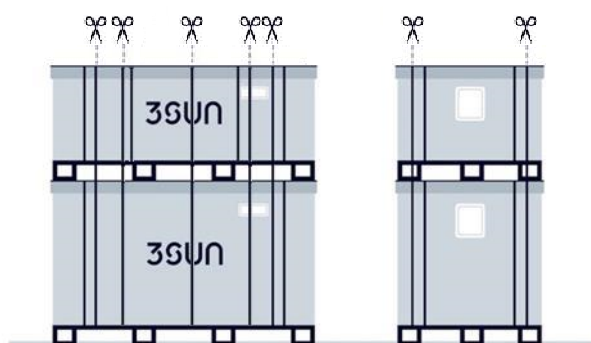

Figure 13: Position of outer straps.
3. Cut the seven outer straps that tie together the top and bottom boxes, indicated in Figure 13 below.